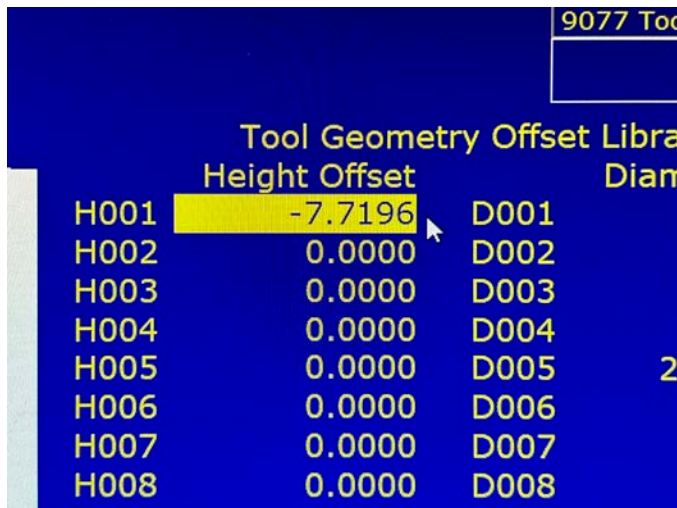

FIGURE 32
- On the Offset Lib page, click on the tool that is in the tool holder that you want to set. In the picture below we have chosen Tool 1 (H001) and the Height Offset number is highlighted in yellow (see Figure 32).